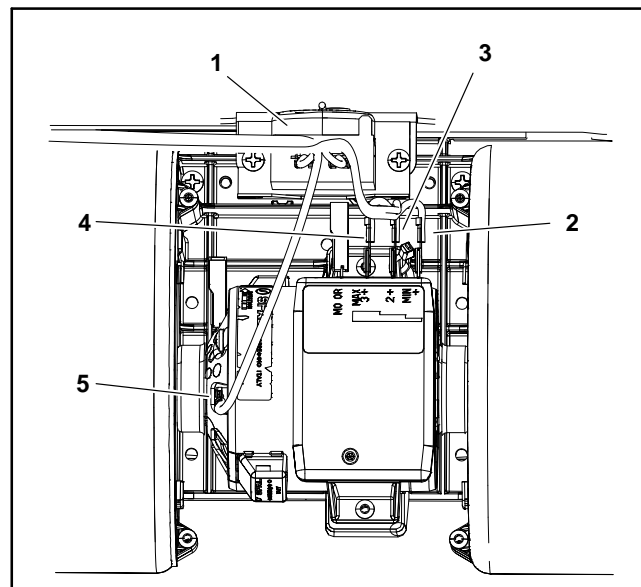

Figure 15
8. Note location of wire harness connectors on freeze switch and blower fan assembly (Fig. 15). Disconnect wire harness connectors from switch and fan.
10. Remove six (6) screws that secure blower fan to heater core/AC evaporator assembly. Remove blower fan.
1. Position blower fan to heater core/AC evaporator assembly and secure with six (6) screws.
3. Connect wire harness connectors to freeze switch and blower fan assembly (Fig. 15).